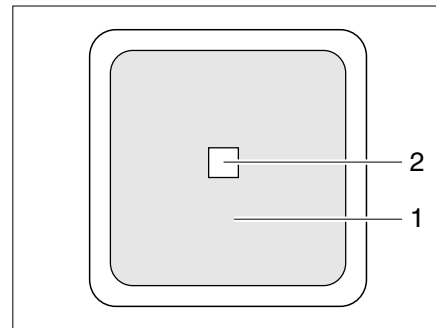

Fig. 251 External switch
- II "Remo." = unit can be switched on and off at the external switch (Fig. 251,1).
The external switch for the converter (Fig. 251) is located in the interior of the vehicle or in the garage. The switch is labeled with "Converter". The LED (Fig. 251,2) indicates the operating state of the converter.